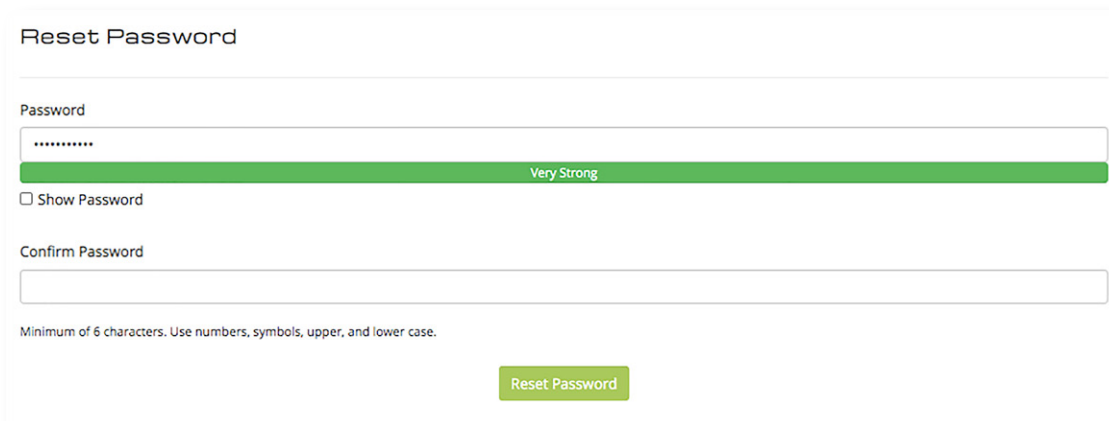

Figure 3: Reset Password dialog box.
- Improved Support Center logon: A new password reset mechanism means increased security (Figure 3).